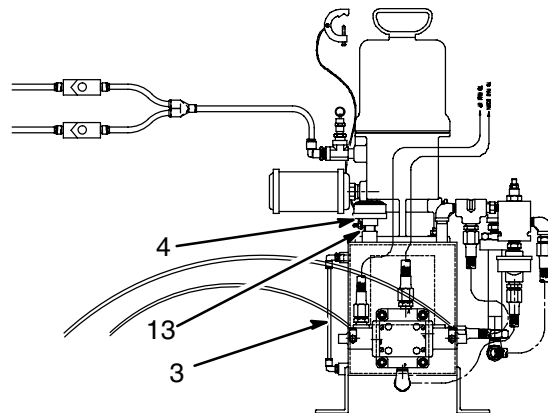

Fig. 16
Check the hydraulic fluid level (Fig. 16). Add more hydraulic fluid if the fluid level falls lower than 102 mm (4") from the top of the fluid level gauge (3).
1. Unscrew the breather (4).
2. Pour hydraulic fluid through the breather hole (13).